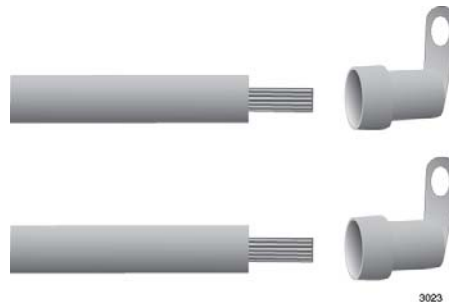

Figure 126. Attaching the Power Wires to the Right Angle Terminals
3. Insert the power wires into the right angle terminals included with the power supply and use a crimping tool to secure the wires to the terminals. See Figure 126,